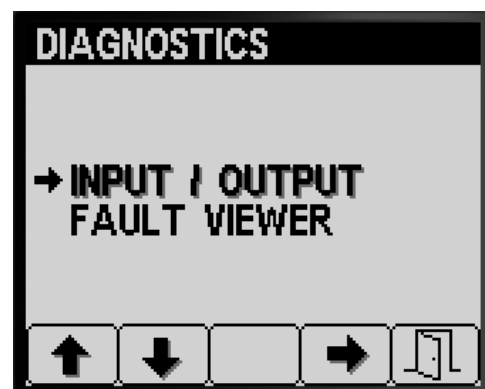

Figure 84
1. Press button 1 or 2 on the Diagnostics screen until you reach the INPUT/OUTPUT option (Figure 84).
2. Press button 3 to select the INPUT/OUTPUT entry (Figure 84).
4. Press button 5 to exit the INPUT/OUTPUT screen, and return to the DIAGNOSTIC screen (Figure 84).